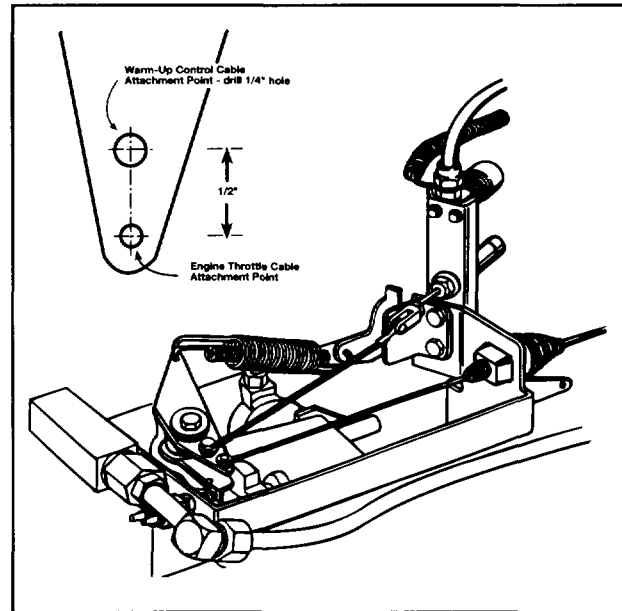

Figure 2
2. Remove the hex screws indicated by the arrows in Figure 2. Mount the Throttle Kick-